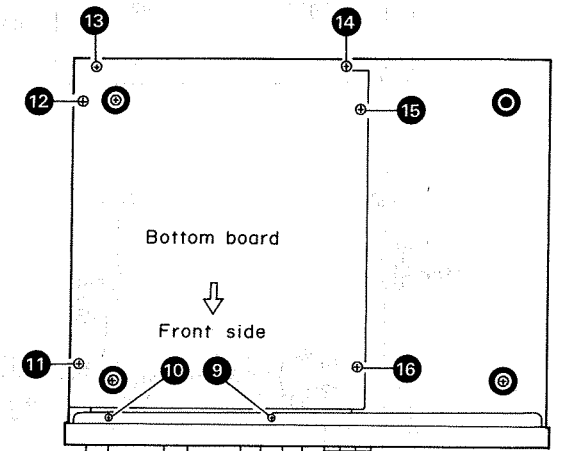
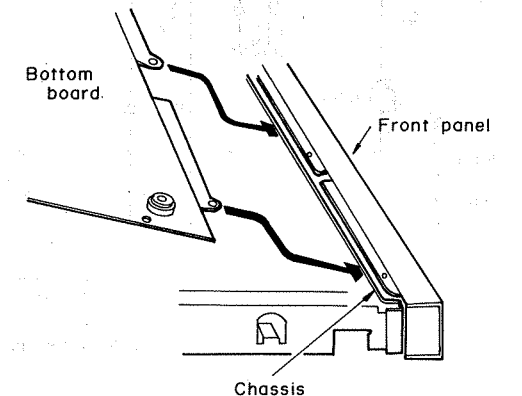

Fig. 11
Fig. 12
- (Fig. 11)
- (1) Remove the bottom board setscrews ⑨ ~ ⑬ to remove the bottom board.
- (2) The front panel setscrews also serve as setscrews ⑭ and ⑮.
*When mounting the bottom board, insert the bottom board front under the chassis as shown in Fig. 12.